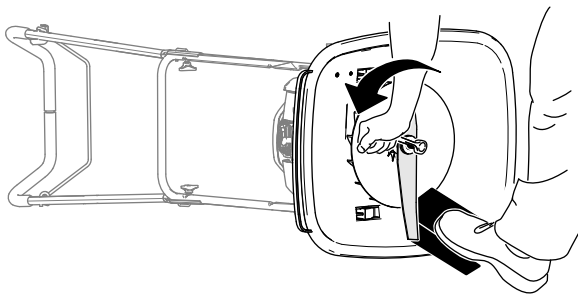

Figure 21
3. Use a block of wood to hold the blade steady (Figure 21).
4. Use a wrench to remove the blade by rotating the bolt counterclockwise (Figure 21).